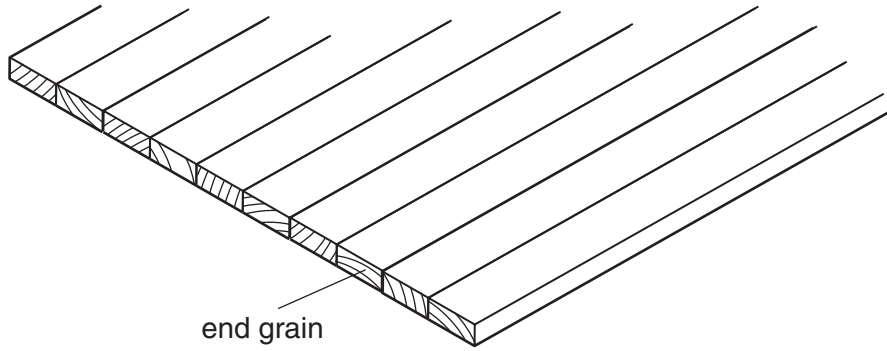

Fig. 3
- (e) A wooden top is to be fitted to the stool. Fig. 3 shows the end grain for the top. Explain why the material is arranged in this way.